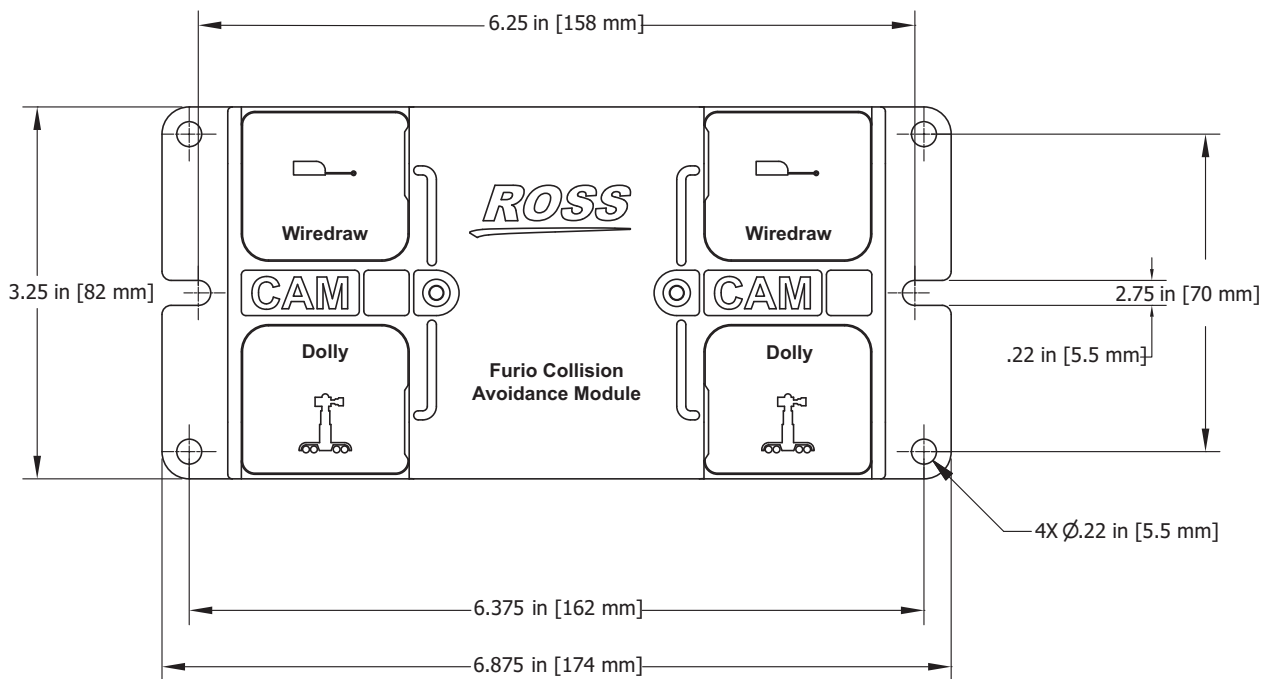

Figure 3.10 Mounting diagram showing the two end notches and four corner holes
2. Referring to the mounting diagram **Figure 3.10**, determine where to install the fasteners.